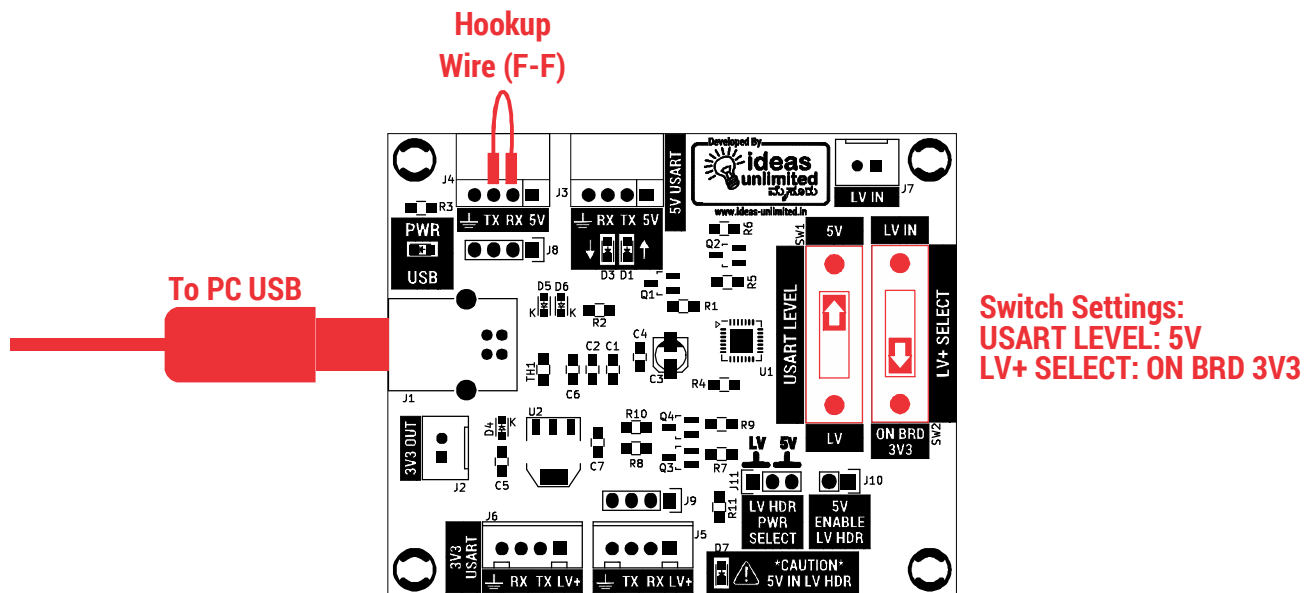

Figure 2: Settings to test 5V port Loop back
**Step 7:** Short TX and RX using a hookup (Female to Female) wire in J4 or J3 as shown in "Figure 2: Settings to test 5V port Loop back"